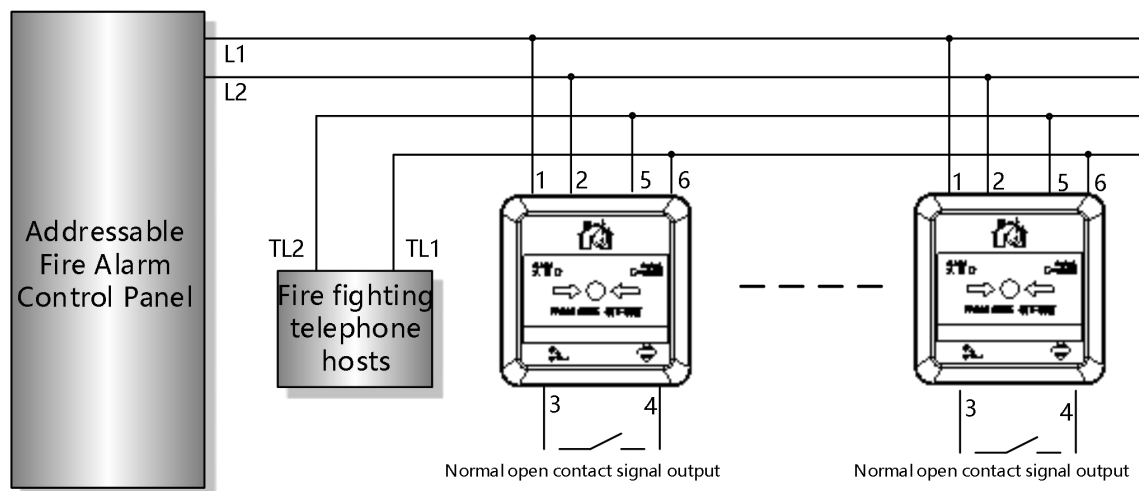
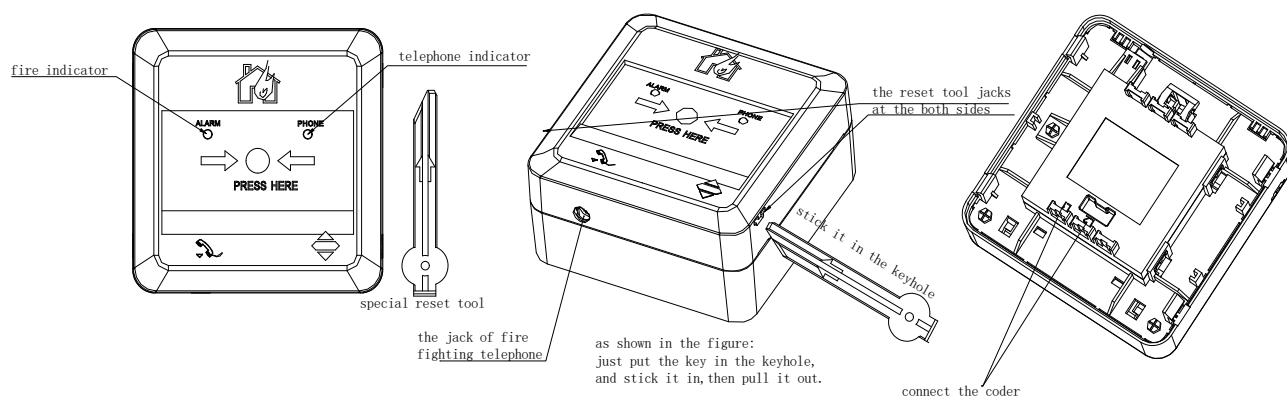

Figure 4 J-SAP-M-A62E wiring method
Figure 5 The use of manual alarm
The wiring method figure as the Figure 4:
Alarming: when the fire alarm is confirmed, press the button on the panel of the manual alarm(as the Figure 5),the fire alarm alarms, at the same time, the normally open terminal 3 port,4 port(as the Figure 4)closes. After the alarm, the indicator light is steady on.
Restore: Insert the special reset key through the reset hole of the shell (as shown in Figure 5), insert the reset key into the bottom, pull out, and the panel restores to the original state. Reset the fire alarm controller and restore the manual alarm to the normal monitoring status.
5.5 Coding address: Clamp the output end of the encoder to the rear cover L1 and L2 pins (regardless of polarity) as shown in Figure 5, set the encoder to the coding function, compile the correct address number, press the "Run" key to complete the address coding settings; Must use our special encoder for coding operation. (Note: Please refer to the encoder user manual for detailed operation)